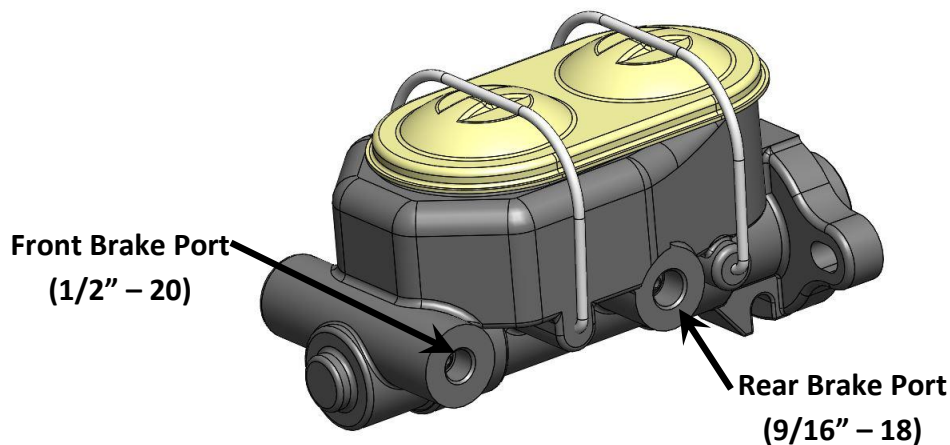

Figure 1 - Brake Line Orientation
8. Route the brake lines from the master cylinder to whatever valve is being used in the system. Refer to Figure 1 below for proper orientation of the brake lines to the master cylinder. If installing with a Master Power Brakes Combination Valve and bracket, refer to those instructions on proper plumbing of the valve.